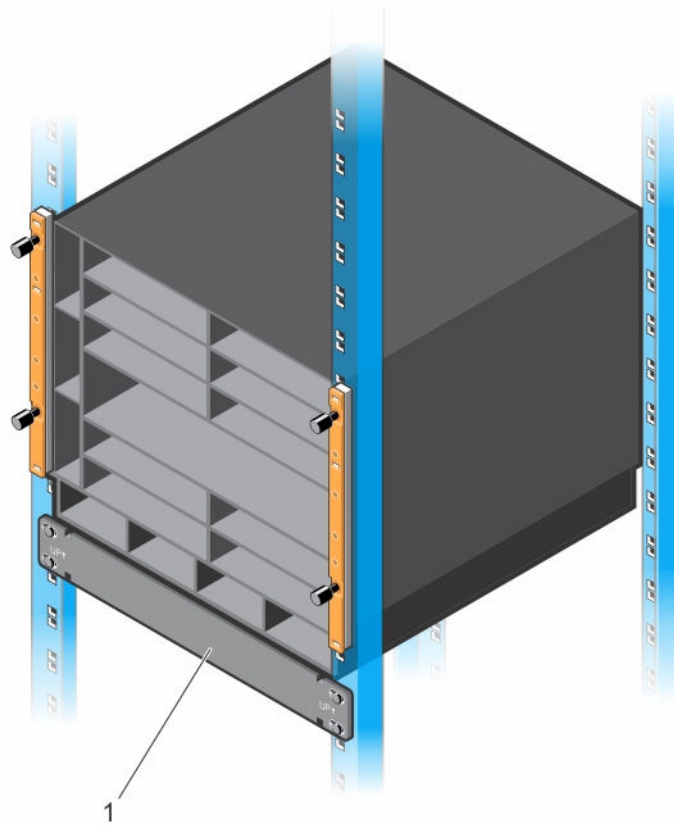

Figure 9. Chassis Installed in a 4-Post Rack
6. Lift and slide the chassis so that the holes on the chassis flanges touch the holes in the rack posts with cage nuts. Use the rack bar (item 1 in Figure 9) as a guide.